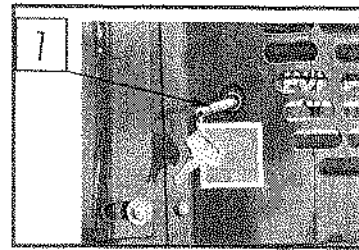

Figure 7-1. Main switch
- The main switch (switch no. 1 figure 7-1) is located at the platform side of the turntable, seen from the platform on the left side of the turntable.